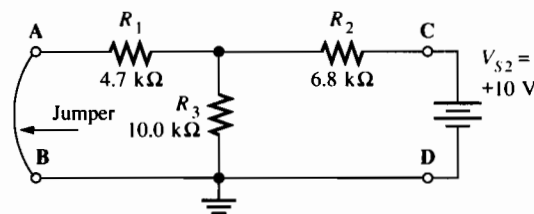

Figure 11–3
8. Compute the current through each resistor in Figure 11–3. Note that the total current flows through R_2 and divides each between R_1 and R_3 . Mark the magnitude and direction of the current on Figure 11–3. *Important:* Record the current as a *positive* current if it is in the same direction as recorded in step 5 and as a *negative* current if it is in the opposite direction as in step 4.
9. Use the currents computed in step 8 and the measured resistances to compute the voltage drops across each resistor. If the current through a resistor was a *positive* current, record the resistor's voltage as a *positive* voltage. If a current was a *negative* current, record the voltage as a *negative* voltage. Then connect the +10 V source as illustrated in Figure 11–3 and measure the voltages. The measured voltages should confirm your calculation.
10. Compute the algebraic sum of the currents and voltages listed in Table 11–2. Enter the computed sums in Table 11–2. Then replace the jumper between A and B with the +5.0 V source, as shown in the original circuit in Figure 11–1. Measure the voltage across each resistor in this circuit. The measured voltages should agree with the algebraic sums. Record the measured results in Table 11–2.